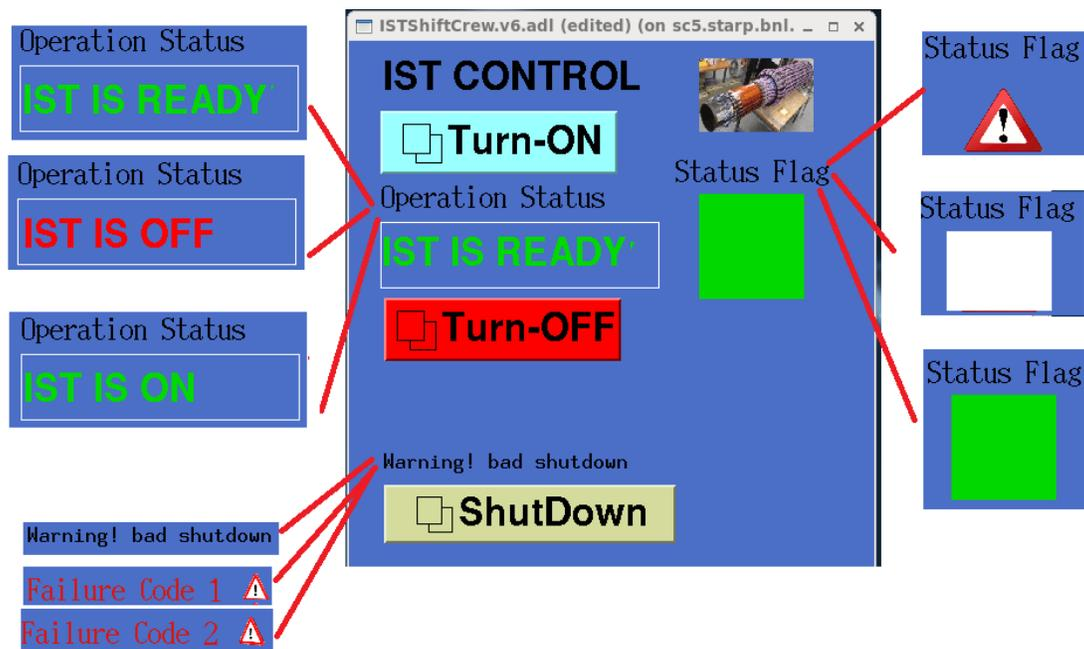
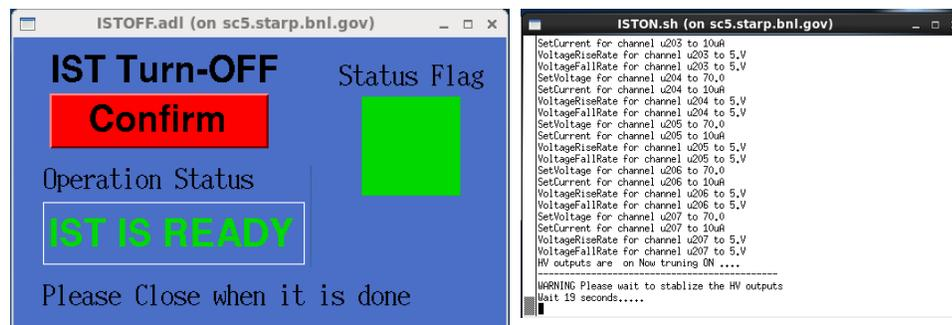
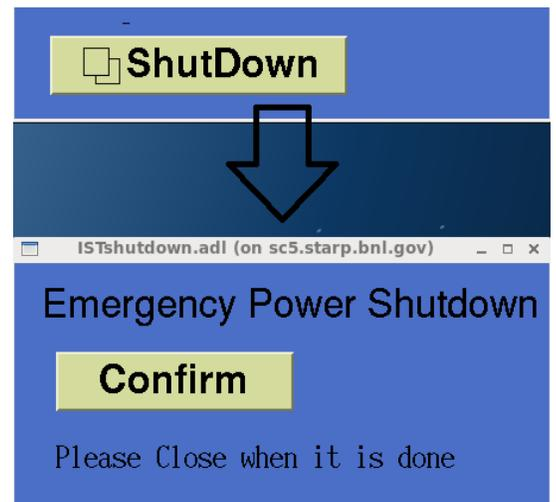

Figure 1 Main IST Shift Crew GUI
Figure 4 Left: IST Turn-Off Confirmation Window. Right: Pop-up terminal during turn-on.
Figure 6
The main IST GUI (Figure 1) should always be running on IST-OPS2, the PC on the left-hand side to the door when you enter the STAR control room (Display labeled as **IST-OPS2.STARTP.BNL.GOV**). In case it is not running look at section 5.5 (how to start IST Main GUI). IST has 3 operation status and 3 status flags as following :
- 1- Click on “Turn OFF” button in the IST main GUI (Figure 1). A window (Figure 4 left) will show up to ask you for confirmation to turn off the IST.
- 2- Click on the “Confirm” button. A terminal (Figure 4 right) will show up, automatically executing the commands to turn off the IST. After about 60 seconds, the terminal (Figure 4 right) will disappear after the last command being executed. The IST status bar will become green indicating that turning off is successful and “IST IS OFF” (Figure 5).
- 3- Close the Turn-Off confirmation window (Figure 4 right) and inform the shifter leader that the IST is off.
- I. Close the Turn-Off confirmation window (Figure 4 right), then click on “Turn OFF” button again and repeat the above procedure.
1. Click on the “ShutDown” button in the main GUI (Figure 1). A new window will pop up (Figure 6).